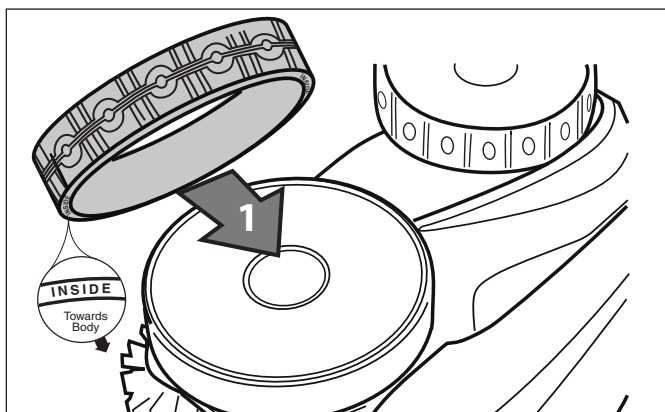

Figure 37. Tire Replacement Orientation
3. To replace the tire, position the tire on the wheel making sure to orient the tire so that the word **INSIDE** is toward the body of the cleaner. See Figure 37.